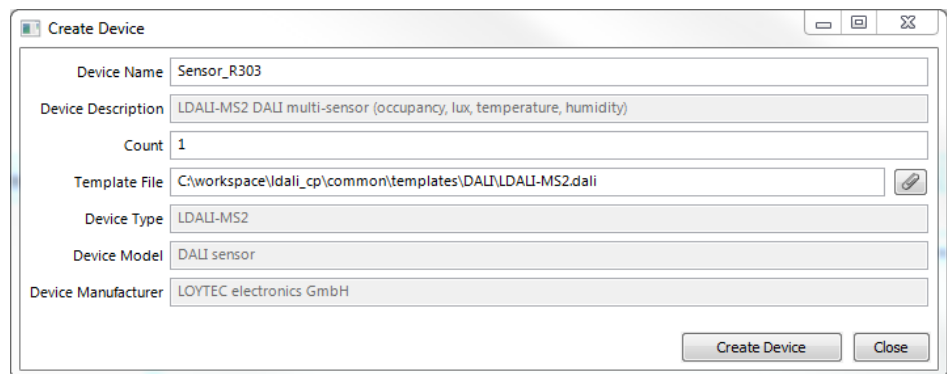

Figure 208: DALI device creation dialog
3. In the **Create Device** dialog enter a Device Name and a Count of devices to be created as shown in Figure 208.